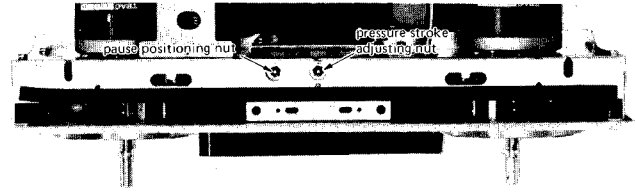

Fig. 2-5 Pause position and pinch roller pressure stroke adjustments
2. Adjust by turning the pressure stroke adj. nut (Fig. 2-5) so that the clearance between the pin and the stopper cushion is about 1.0 mm.